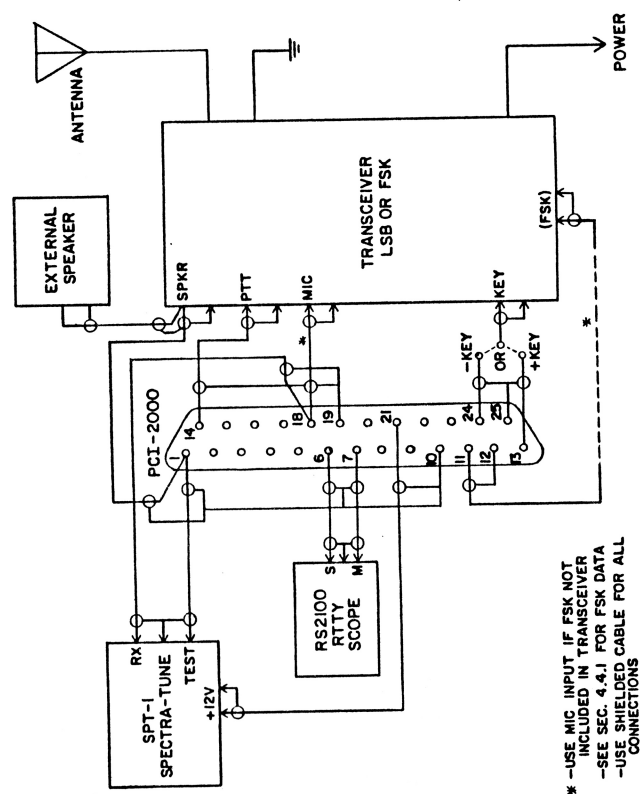

FIGURE 3. DIRECT RADIO CONNECTIONS
In some radio systems, it is convenient to make up one or two multi-conductor cables that include all the necessary signals to and from the PCI-2000. This may be particularly desirable when transceivers with multi-pin I/O connectors are used. In this case, use a shielded, multi-conductor cable with No. 24 or 26 wire size for the system cable. The simplest hook-up involves only one 5-conductor shielded cable (Ground, AF IN, AF OUT or FSK, PTT, and CW KEY). A second 2-conductor shielded cable is also desirable for connection to a tuning indicator such as the RS2100. A typical radio system direct cable connection is shown in Figure 3.
The RS2100 RTTY SCOPE should be connected to the MARK and SPACE outputs to give the normal X-Y ellipse presentation. Conversely, any standard oscilloscope with separate vertical (Y=SPACE) and horizontal (X=MARK) can be used as a tuning indicator. The MARK and SPACE outputs of the PCI-2000 produce audio signals with approximately 10V p-p amplitude when the input signal frequencies match those of the discriminator filters. Some older vacuum-tube type oscilloscopes may require additional amplification for the horizontal (X) axis input. Be sure to use shielded cables for all tuning scope connections. Typical RS2100 connections are shown in Figures 3 and 4.
Power. Be sure to use shielded cables for all audio connections to the SPT-1. Connections to the SPT-1 are shown in Figures 3 and 4.